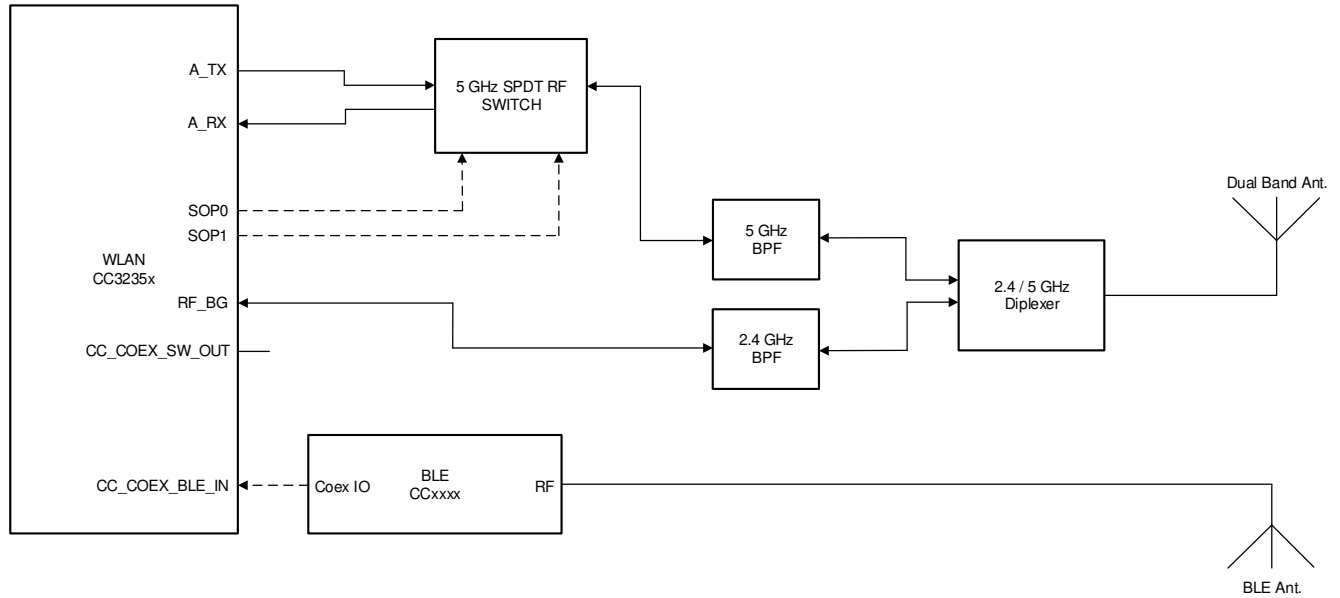

图 10-4. Dual Antenna Coexistence Solution with 5 GHz Wi-Fi
- 5 GHz Wi-Fi band (see 图 10-4)
Figure 10-4 shows the dual antenna implementation of a complete Bluetooth® low energy and WLAN coexistence network with the WLAN operating on either a 2.4- or a 5 GHz band. In this case the 2.4 GHz and 5 GHz Wi-Fi share an antenna and the BLE has its own dedicated antenna. The SOP lines control the 5 GHz switch. Note in this implementation no Coex switch is required and only a single GPIO from the BLE device to the CC3235x device is required.